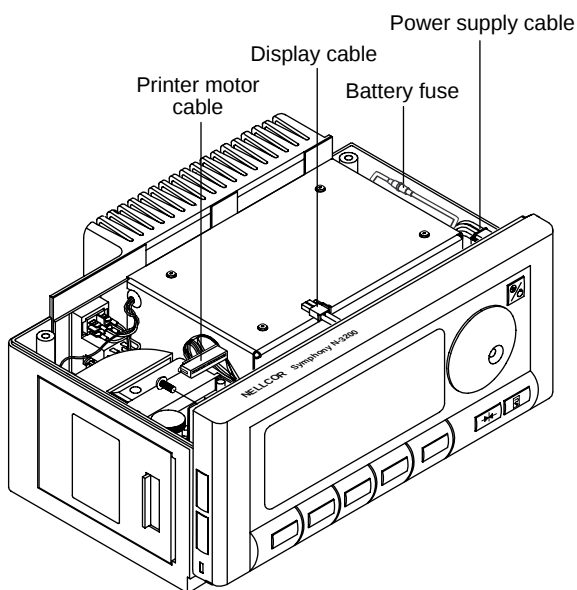

Figure 6-6: Disconnecting Cables from UIF Board
1. Display data is missing or erratic.	1. If operating in stacked configuration, disconnect the N-3200 from the other instruments and reconnect. 2. If the condition persists, enter the service mode as described in paragraph 3.3.4, Hardware and Software Performance (Service Mode). Verify the condition by performing the procedures in paragraph 3.3.4.2, Display Tests. 3. If the power cycles, but there is no display, check the display cable connection as indicated in Figure 6-6. 4. If none of the displays light, replace the UIF PCB. If the condition still persists, replace the Display PCB. 5. If some but not all of the displays light, replace the Display PCB. If the condition still persists, replace the UIF PCB.
7. Disconnect the display cable and printer motor cable from the connectors on the UIF board as illustrated in Figure 6-6.
13. Reconnect the printer motor cable and display cable (Figure 6-6). Replace the power supply cable by pressing the connector on the housing.